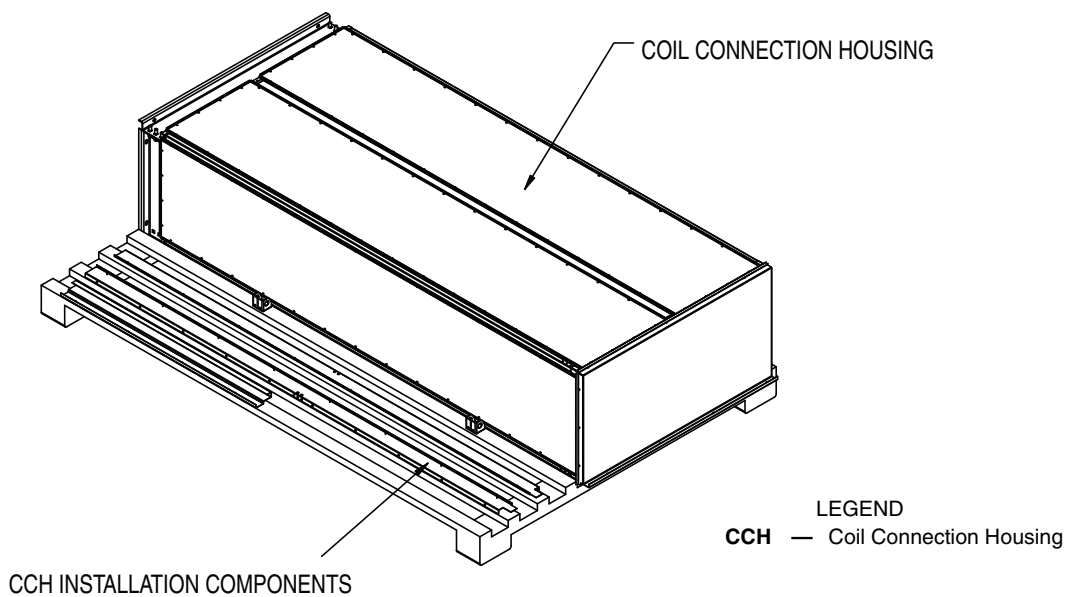

Fig. 52 — Coil Connection Housing
1. The CCH will be shipped to the job site on its own skid, separate from the air-handling unit (AHU) as shown in Fig. 52.